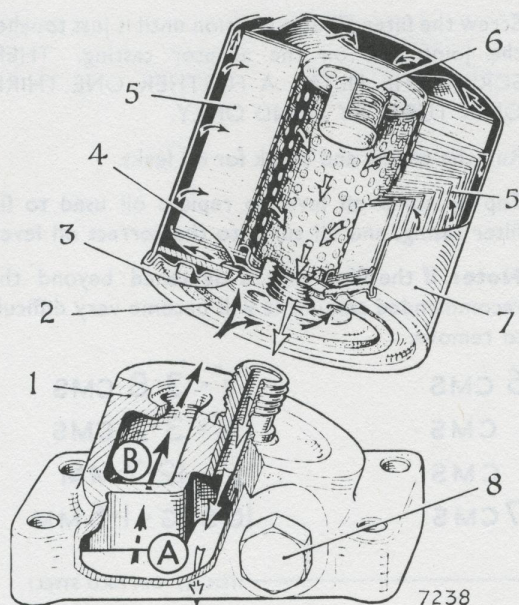

Fig. 52. Throw away type full flow filter—internal construction
### FULL FLOW OIL FILTER—Throw away type (See Fig. 52)
Oil from the engine oil pump enters compartment "B" in the filter adaptor casting (1) and passes through eight port holes into the filter body. All oil entering the filter passes through the filter cartridge from the outside to the centre as shown in Fig. 52 and thence through the screwed spigot to compartment "A" in the adaptor casting. From here it enters the engine main oil gallery.
A by-pass valve (6) is fitted inside the throw away filter unit and forms part of this assembly as shown in Fig. 52.
**Changing throw away filter unit.** (See Fig. 52)*To remove—*